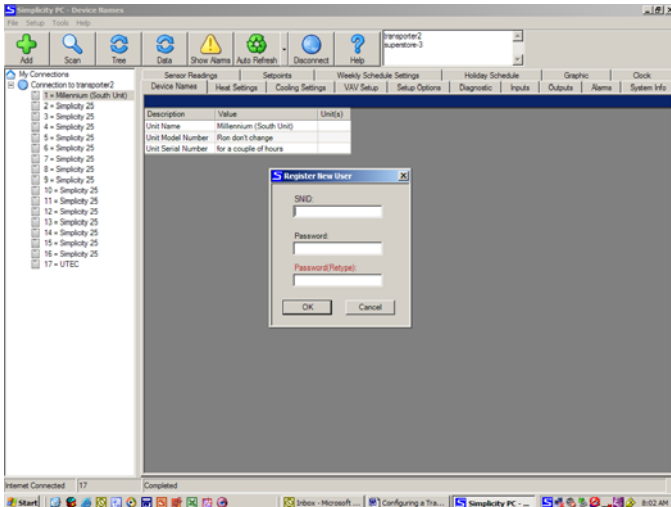

Figure 2 SNID dialog box
4. This displays a dialog box where you can enter a SNID and password. (Figure 2) You are required to enter the password twice to verify it was entered correctly. A SNID (Simplicity Network ID) is a network identifier that you make up and is used to identify any connection to a Simplicity network. Remember both your SNID and Password. The password is case sensitive.